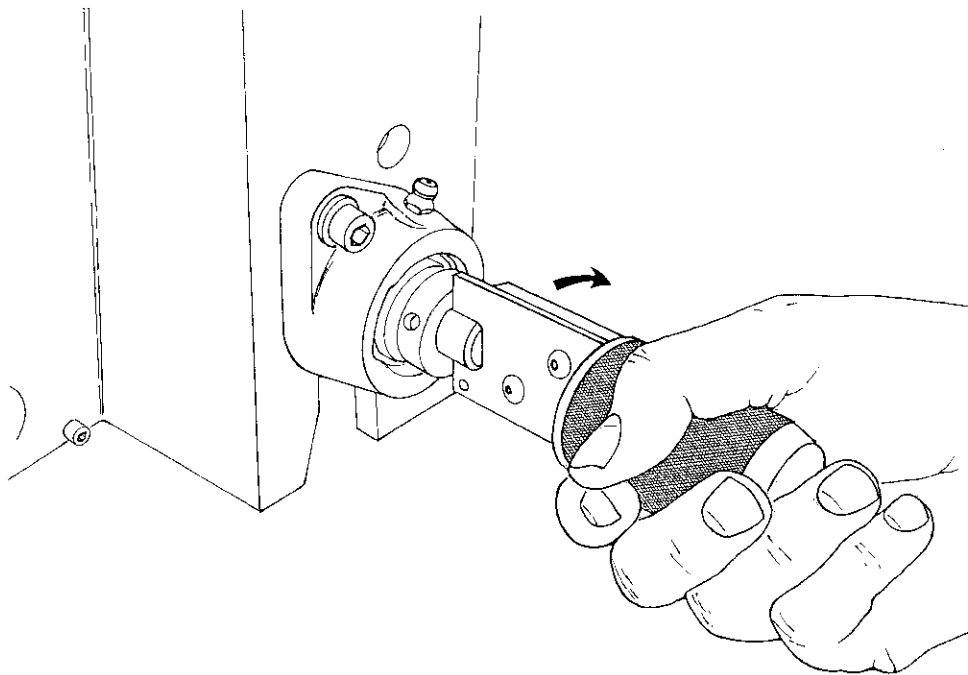

Figure 7
5. Hand-cycle the machine through several crimping cycles by inserting the detachable hand knob in the slot in the drive shaft and rotating **CLOCKWISE** as viewed from the right side of the machine. Observe operation of the crimp fingers, crimpers, and advancement of slide assembly. See Figure 7.